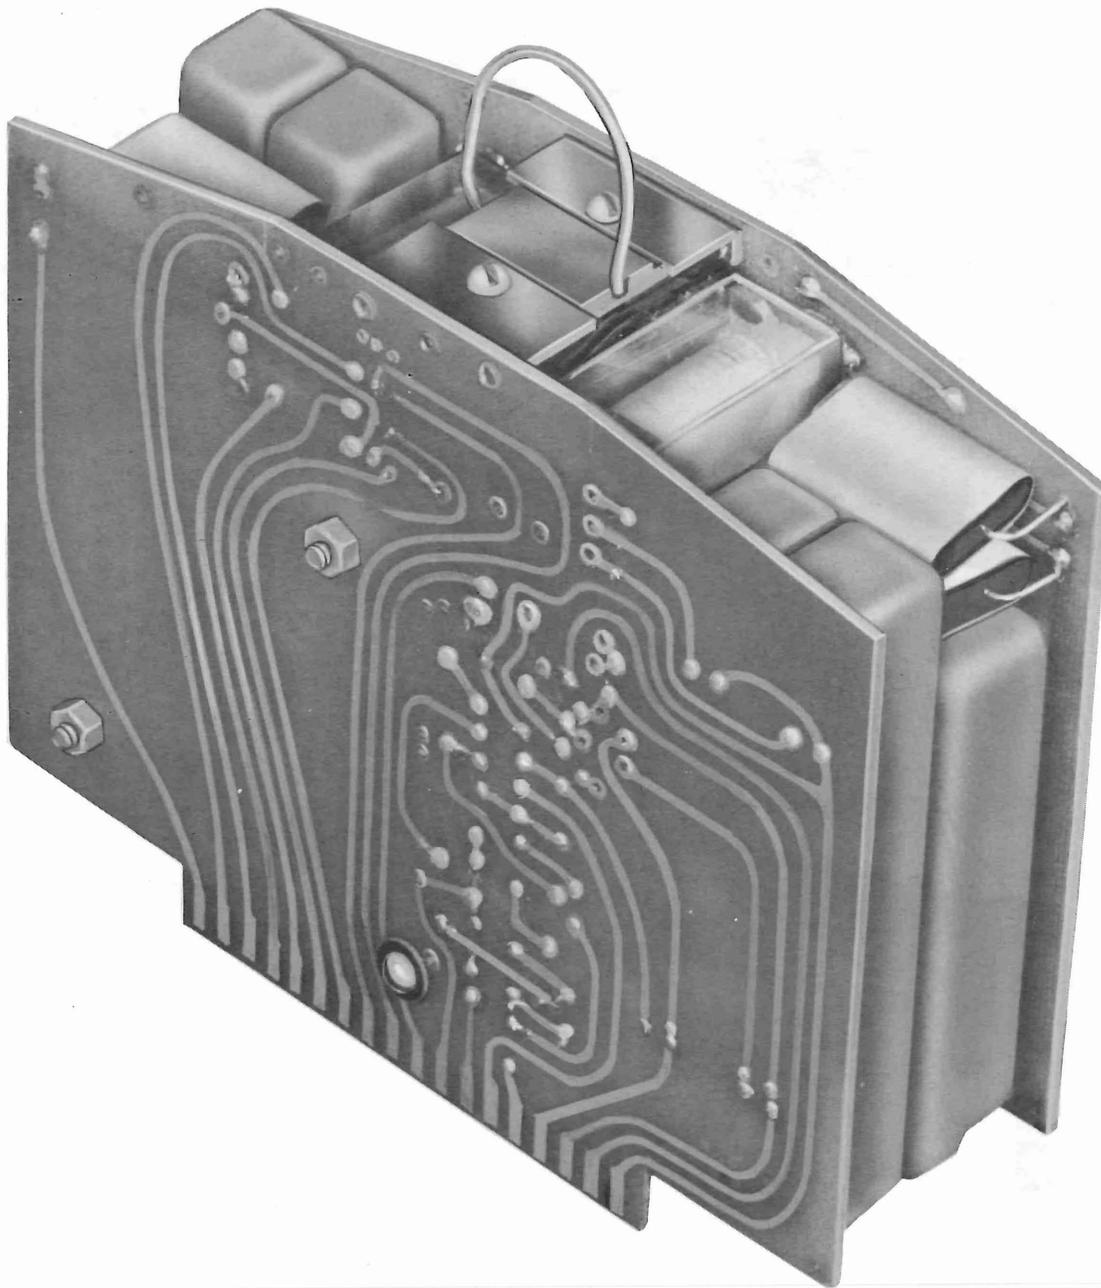
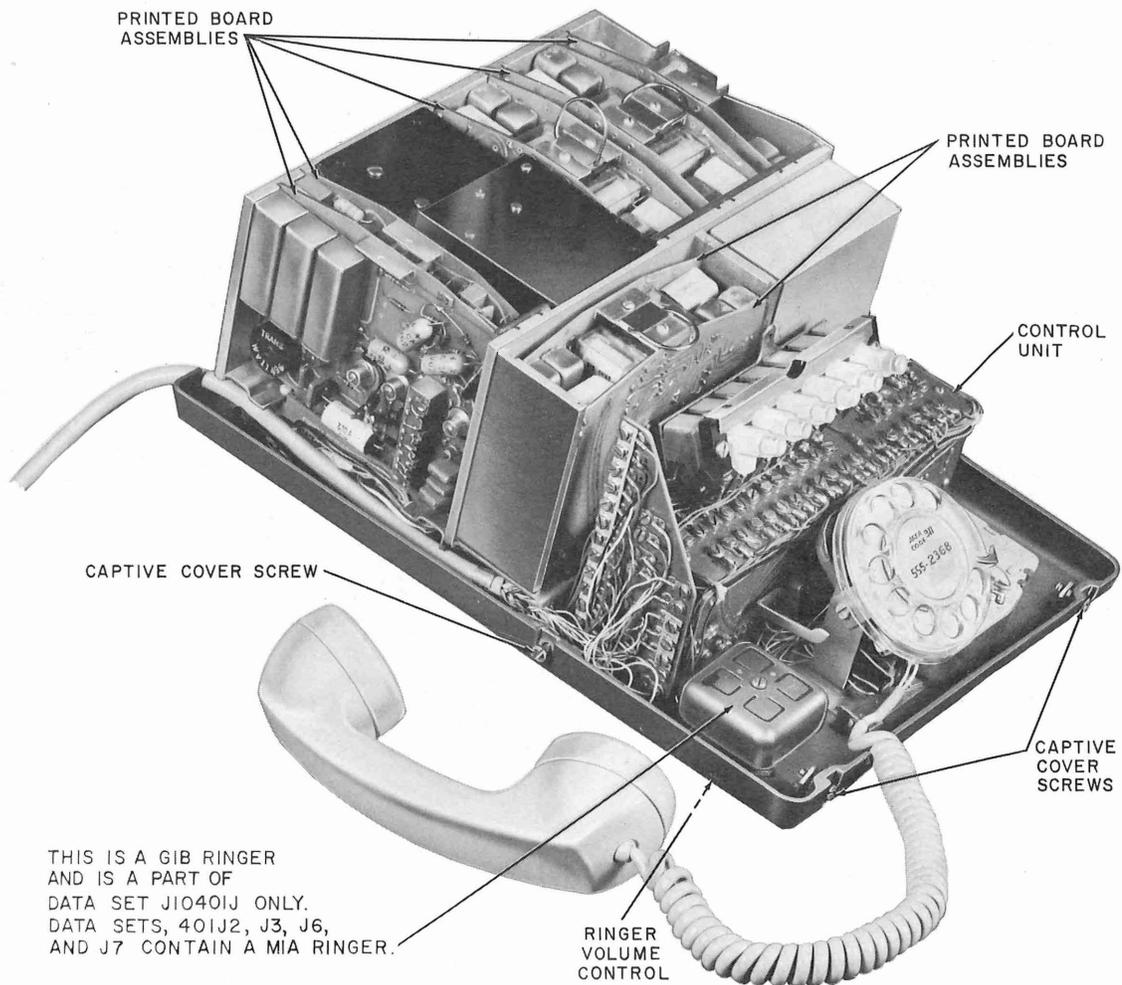

Fig. 6—Printed Board Assembly
Fig. 7—Data Set J1D401J and 401J1—Inside View
1.09 Printed board assembly repair is limited to complete assembly replacement (Fig. 6).
- (1) Refer to the data test center for a loop-back test. Check frequencies and levels from the transmitting station, central office trouble, etc.
- (2) Confirm, if possible, that customer equipment is operating properly.
- (3) Check for cord and connector defects (Fig. 7, 8, and 9).
- (4) Check for intermittent trouble in the inside wiring, drop wire, protector, etc.
- (1) Loosen but do not remove the four captive rear cover screws located around the base pan (Fig. 7).
- (2) Remove the rear cover by pulling it straight up.
- (3) Loosen but do not remove the two front cover retaining screws (Fig. 6).
- (4) Tilt the front cover slightly forward at the top while pulling it up and away from the base pan and pushbuttons.
- (1) Tilt the front cover slightly forward at the top while lowering it over the base pan and pushbuttons.
- (2) Check that the two front cover retaining screws properly engage the front cover retaining brackets (Fig. 7).
- (3) Tighten the two front cover retaining screws (Fig. 7).
- (4) Position the rear cover retaining wedges so they may easily engage the cover lugs.
- (5) Lower the rear cover and the cover lugs over the captive wedges.
- (6) Check that rear cover lugs are engaged with cover wedges.
- (7) Check that cover catch brackets are properly engaged with the rear cover at the front of the unit.
- (8) Tighten the rear cover screws.